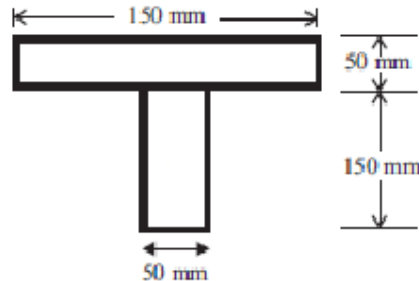

Figure 2
b) Find out the M.I. of T section as shown in fig 2 about X-X and Y-Y axis through the C.G. of the section.